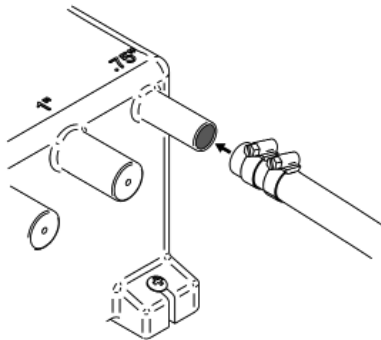

Figure 8 Securing Hose to Tank Port
- Fig. 8 Securing Hose to Tank Port
Step 5: Secure all hosing onto the selected ports using appropriate hose clamps, as shown in Figure 8. Check no leaks occur. Do not overtighten hose clamps.